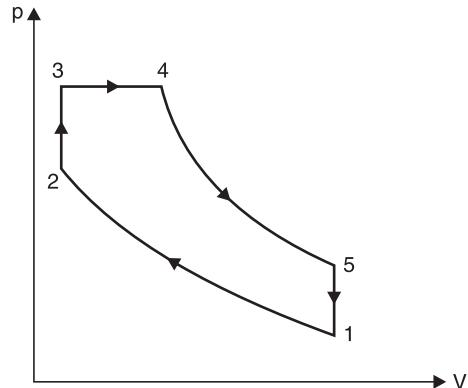

Fig. 4.23. Dual cycle.
**Solution.** Refer to Fig. 4.23.